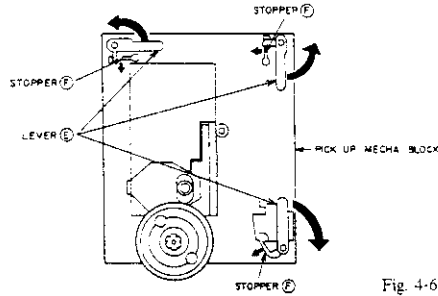

Fig. 4-6
- 1) Turn the LEVERS ⑤ while releasing the STOPPERS ⑥ as shown Fig.4-6.